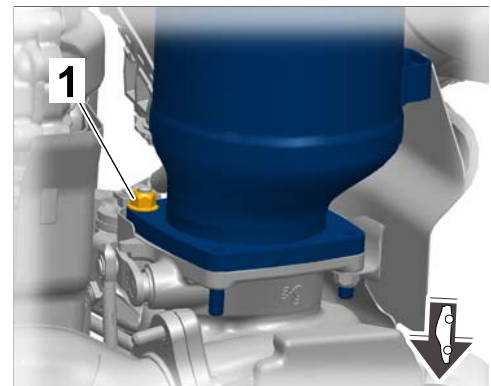

*Figure 35*
- 7.9 Position main silencer with lock ⇒ *Figure 35*
-1- on the main silencer holder ⇒ *Figure 35*